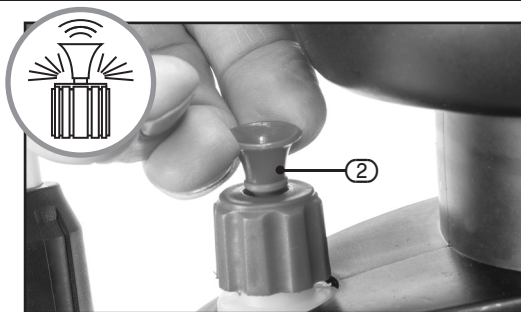

FIG.17
9.3 SAFETY PRESSURE VALVE – FIG. 17
– FIG. 17